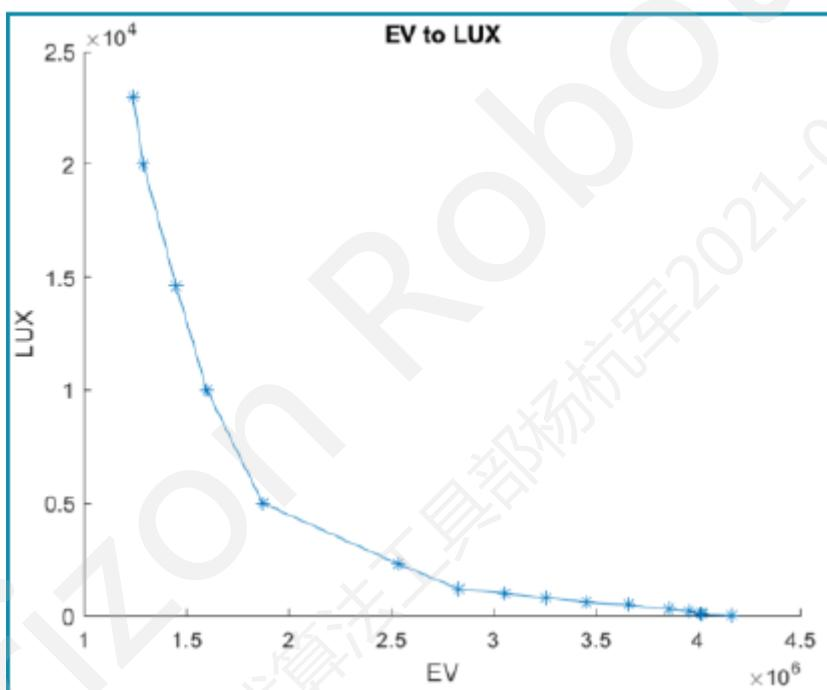

Figure 3.3-9 EV to Lux undocked plot.
The Calibration Tool can accept up to 18 nodes. Meaning, that for the setup shown in Table 3.3-4, additional lux levels can be added to increase precision if preferable. This is most useful for documenting the bend in the EV to Lux curve (see Figure 3.3-9).
6. To view the EV to Lux curve generated, select the ">>" undock plots button. This will provide a plot similar to Figure 3.3-9.